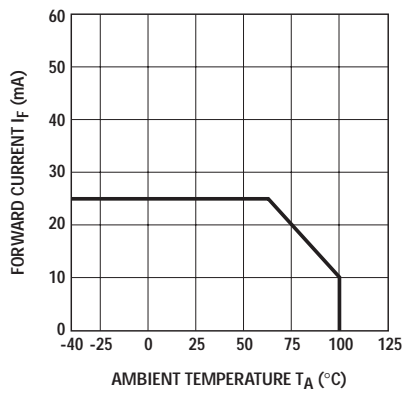

Figure 11. LED forward current vs. ambient temperature, HCPL-3100.
- Derate absolute maximum ratings with ambient temperatures as shown in Figures 11 and 12.